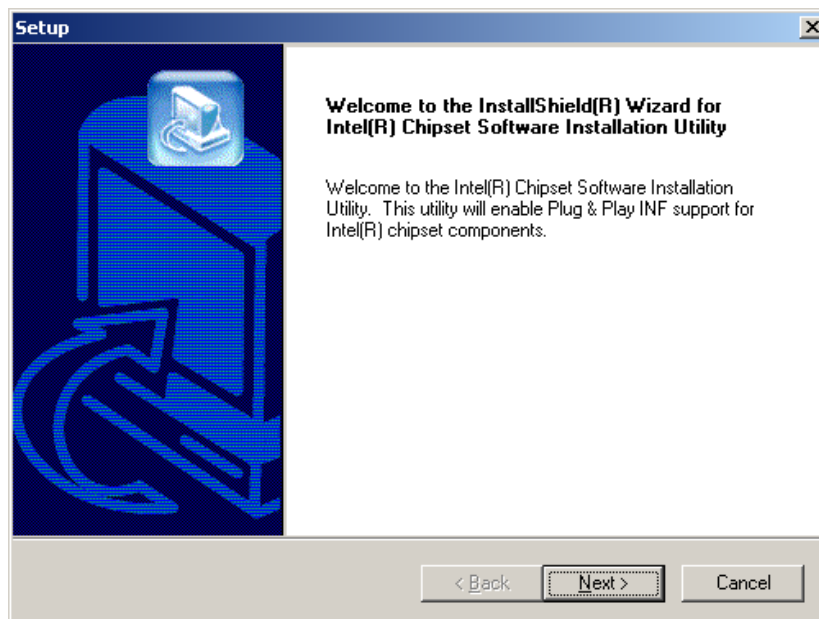

Figure 6-2: Chipset Software Installation Utility Welcome Screen
Step 3: The **InstallShield Wizard Welcome** screen appears (Figure 6-2).